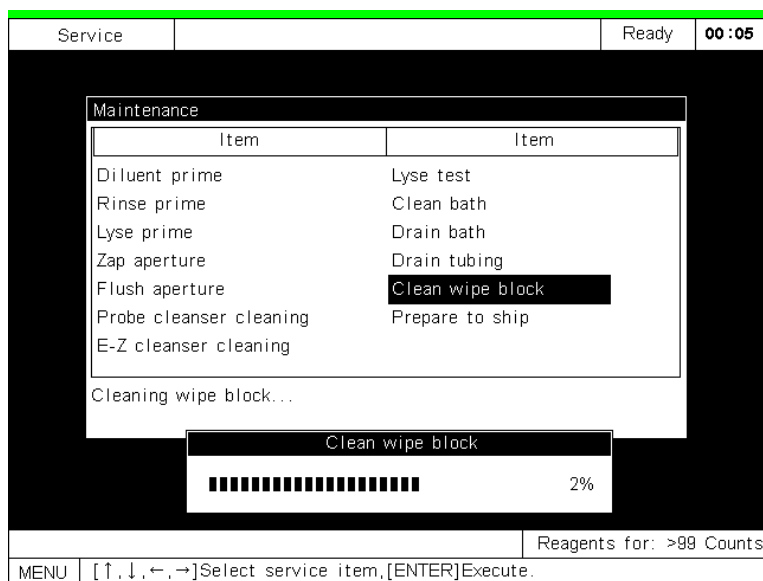

Figure8-14 Cleaning wipe block
- Press [ENTER] to soak the wipe block with the aspirated cleanser. The soaking progress will be displayed on the screen, as Figure 8-14.